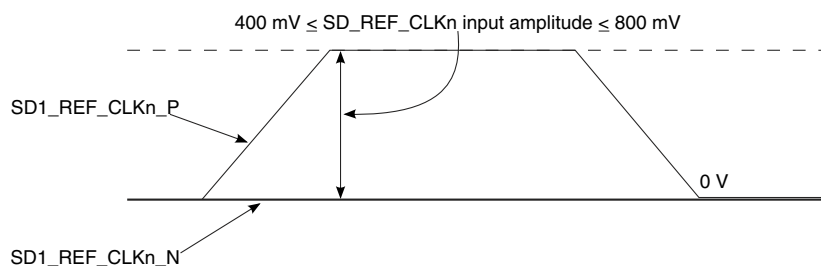

Figure 65. Single-ended reference clock input DC requirements
- The SD1_REF_CLKn input average voltage must be between 200 and 400 mV. Figure 65 shows the SerDes reference clock input requirement for single-ended signaling mode.